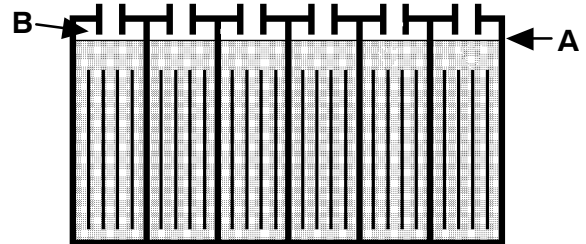

FIG. 25
2. Each week **after** charging, check fluid level (A) in each battery cell of all batteries. The level should be 1cm from bottom of sight tubes (B). If needed, add just enough distilled water to raise level 1cm from bottom of sight tubes. DO NOT overfill (Figure 25).